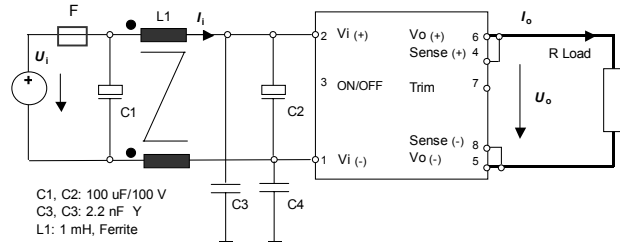

Figure 44: TXS with a one stage input filter.
Figure 48: TXS100ZB-N with a one stage input filter according figure 44 and an inductor in the ground line to the output. $L2 = 9.6$ mH, $\mu_1 = 50'000$, (VAC W620)
- The EMI measurements have been done with a one stage input filter according to Figure 44.